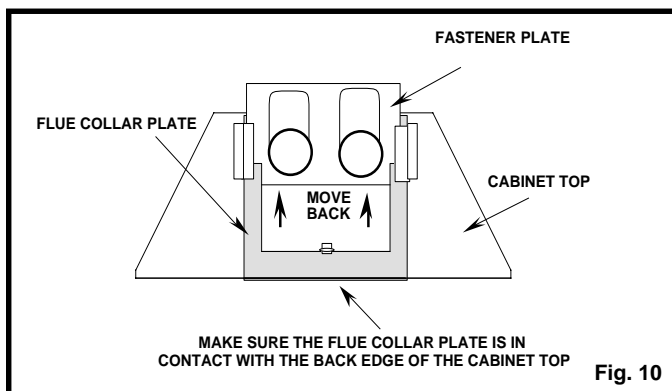

Fig. 10
3. After the flue collar plate is set on the cabinet top, make sure the front edge of the flue collar plate is completely in contact with the back edge of the cabinet top (See Fig. 10).